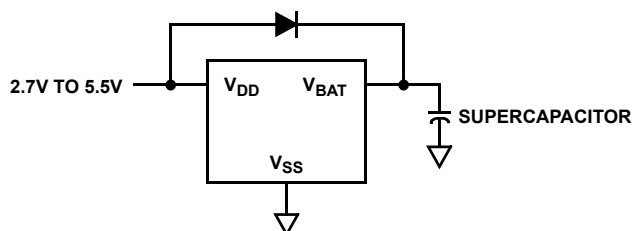

FIGURE 28. SUPERCAPACITOR CHARGING CIRCUIT
- **Mode C** - In this mode, the selection bits indicate a low V_{DD} switchover combined with no communications in battery backup. Operation is actually identical to Mode A with I²C communications down to $V_{DD} = V_{RESET}$, then no communications (see Figure 28).